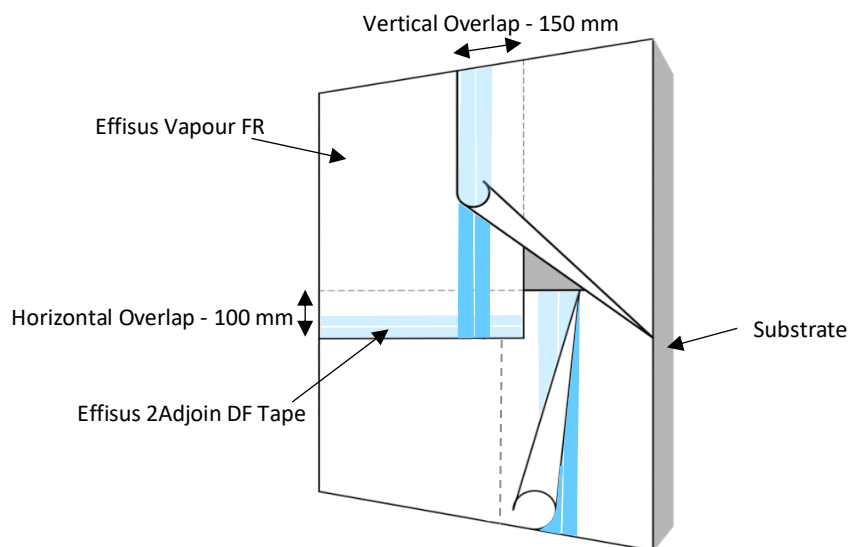

Figure 4 - Effisus Vapour FR Membrane – Overlapping Joints.
- Vertical joints should overlap by 150mm minimum and be staggered or offset wherever possible (see Figure 4).